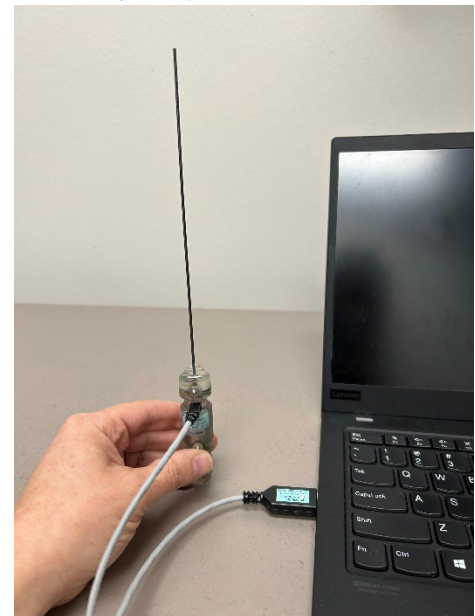

Figure 20—example of the correct orientation for holding the SPOT-325
- **Depending on your application, SPOT-325 and SPOT-371 tags should be held either at desk level or higher than desk level.** Think of the desk as the surface of the water. You should hold the tag in a way that imitates the height of the instrument when the animal comes out of the water. If the tag will be mounted upon something, for this test hold the tag high (~15-30 cm above the desk), as well as grounded against something like a computer. See Figure 20.